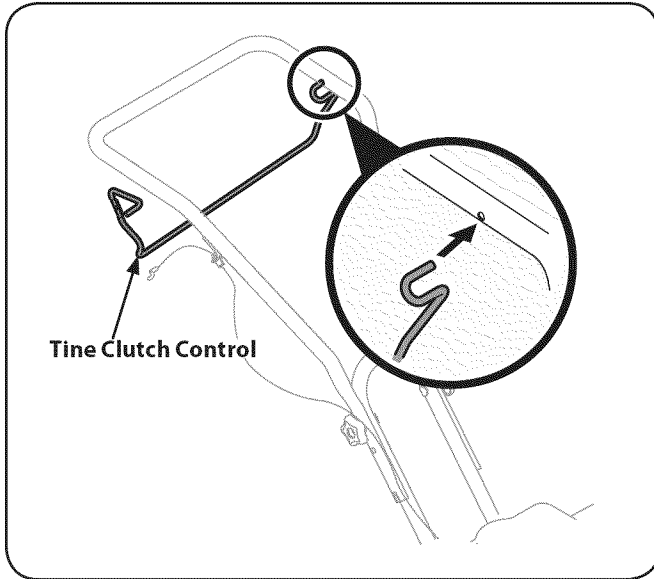

Figure 1-3
4. Insert the left end of the tine clutch control into the hole on the left side of the upper handle. See Figure 1-3.
6. Squeeze the tine clutch control inward. Insert the right end into the hole on the right side of the upper handle. See Figure 1-3.